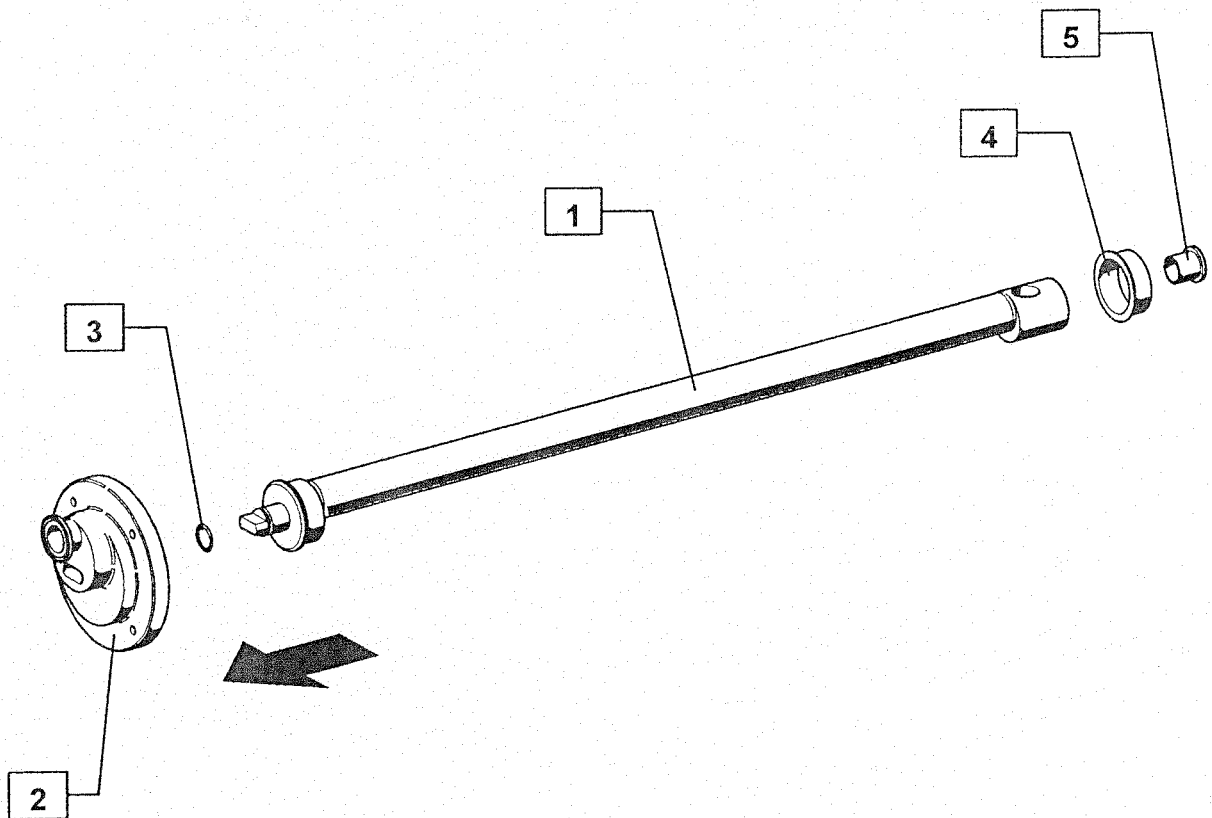

Fig. 7-13 – Dasher disassembly
- 5) Remove the shaft (Fig. 7-13 pos. 1) from the flange (Fig. 7-13 pos. 2) replacing the O-ring gasket (Fig. 7-13 pos. 3) and the brases (Fig. 7-13 pos. 4 e 5).